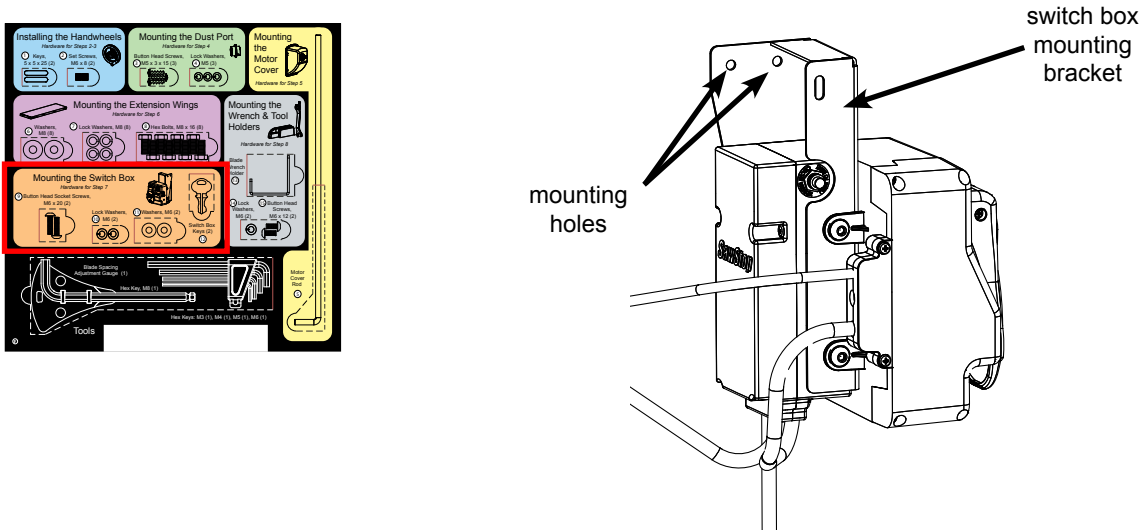
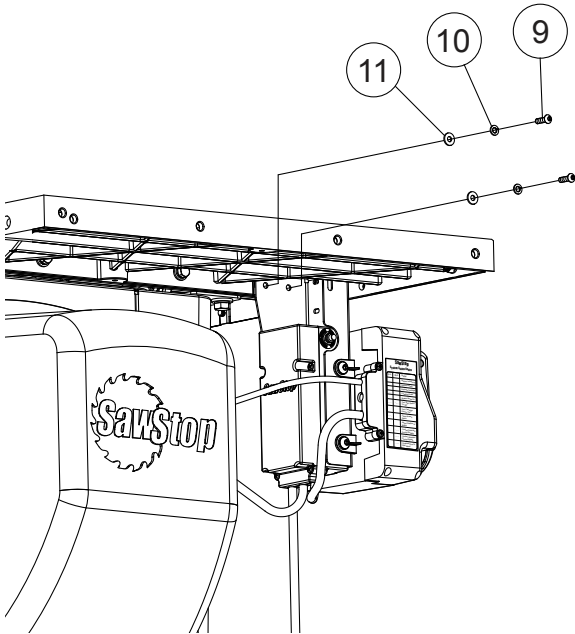

Fig. 28
Fig. 29
7. The hardware required to mount the switch box is located in the area with the orange background on the Table Saw Hardware Pack. Remove two M6 x 20 button head socket screws, two M6 lock washers and two M6 washers and place a lock washer followed by a washer on the end of each screw. Mount the switch box under the left extension wing by inserting the screws into the two holes at the upper end of the switch box mounting bracket (see Fig. 28) and threading them into the holes towards the front of the left extension wing (see Fig. 29). Tighten the screws with a 4 mm hex key.